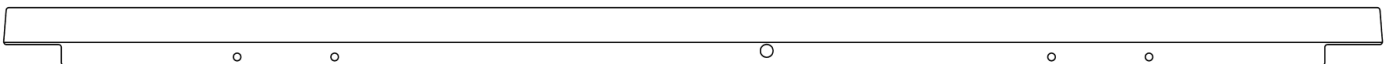

Figure 1: Tailgate Molding with 5 installation holes
**STEP 1:** If your OEM Tailgate Molding has the 5 installation holes as shown in figure 1, please follow steps 2 through 5 to add the four remaining holes to the new molding. If your OEM Tailgate Molding does not have the 5 installation holes, please disregard these instructions.